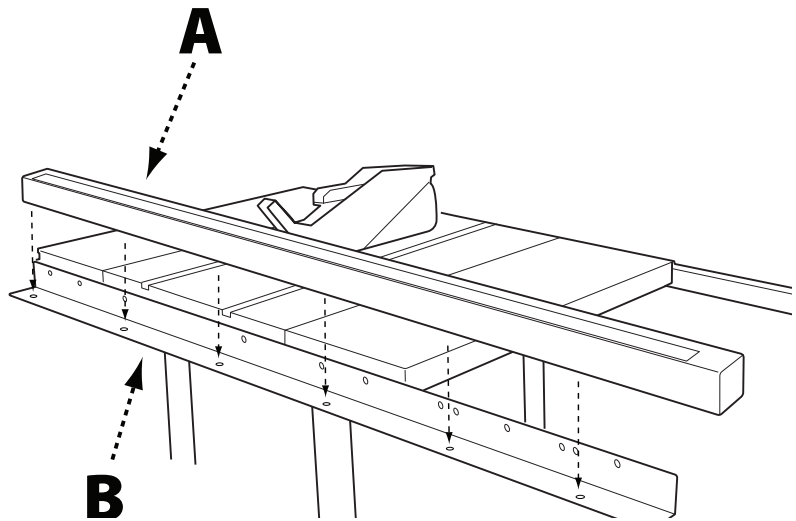

FIGURE 10
1. Align the holes on the bottom of the guide tube (A) with the holes on the front guide rail (B) as shown in Figure 10.